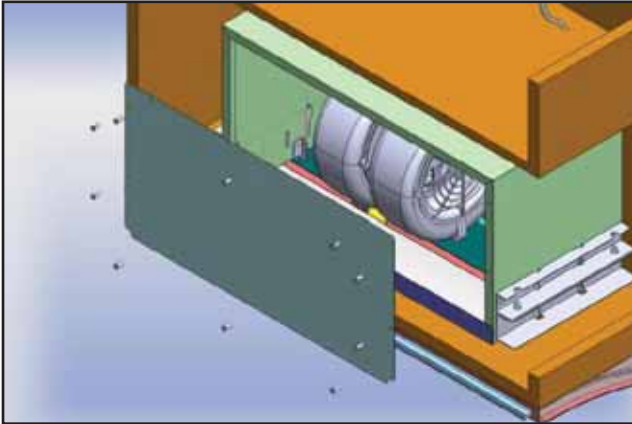

Fig.3
2) Unscrew the (10) screws from front panel and place the panel aside, Fig.3. You will now have access to the interior of the range hood.